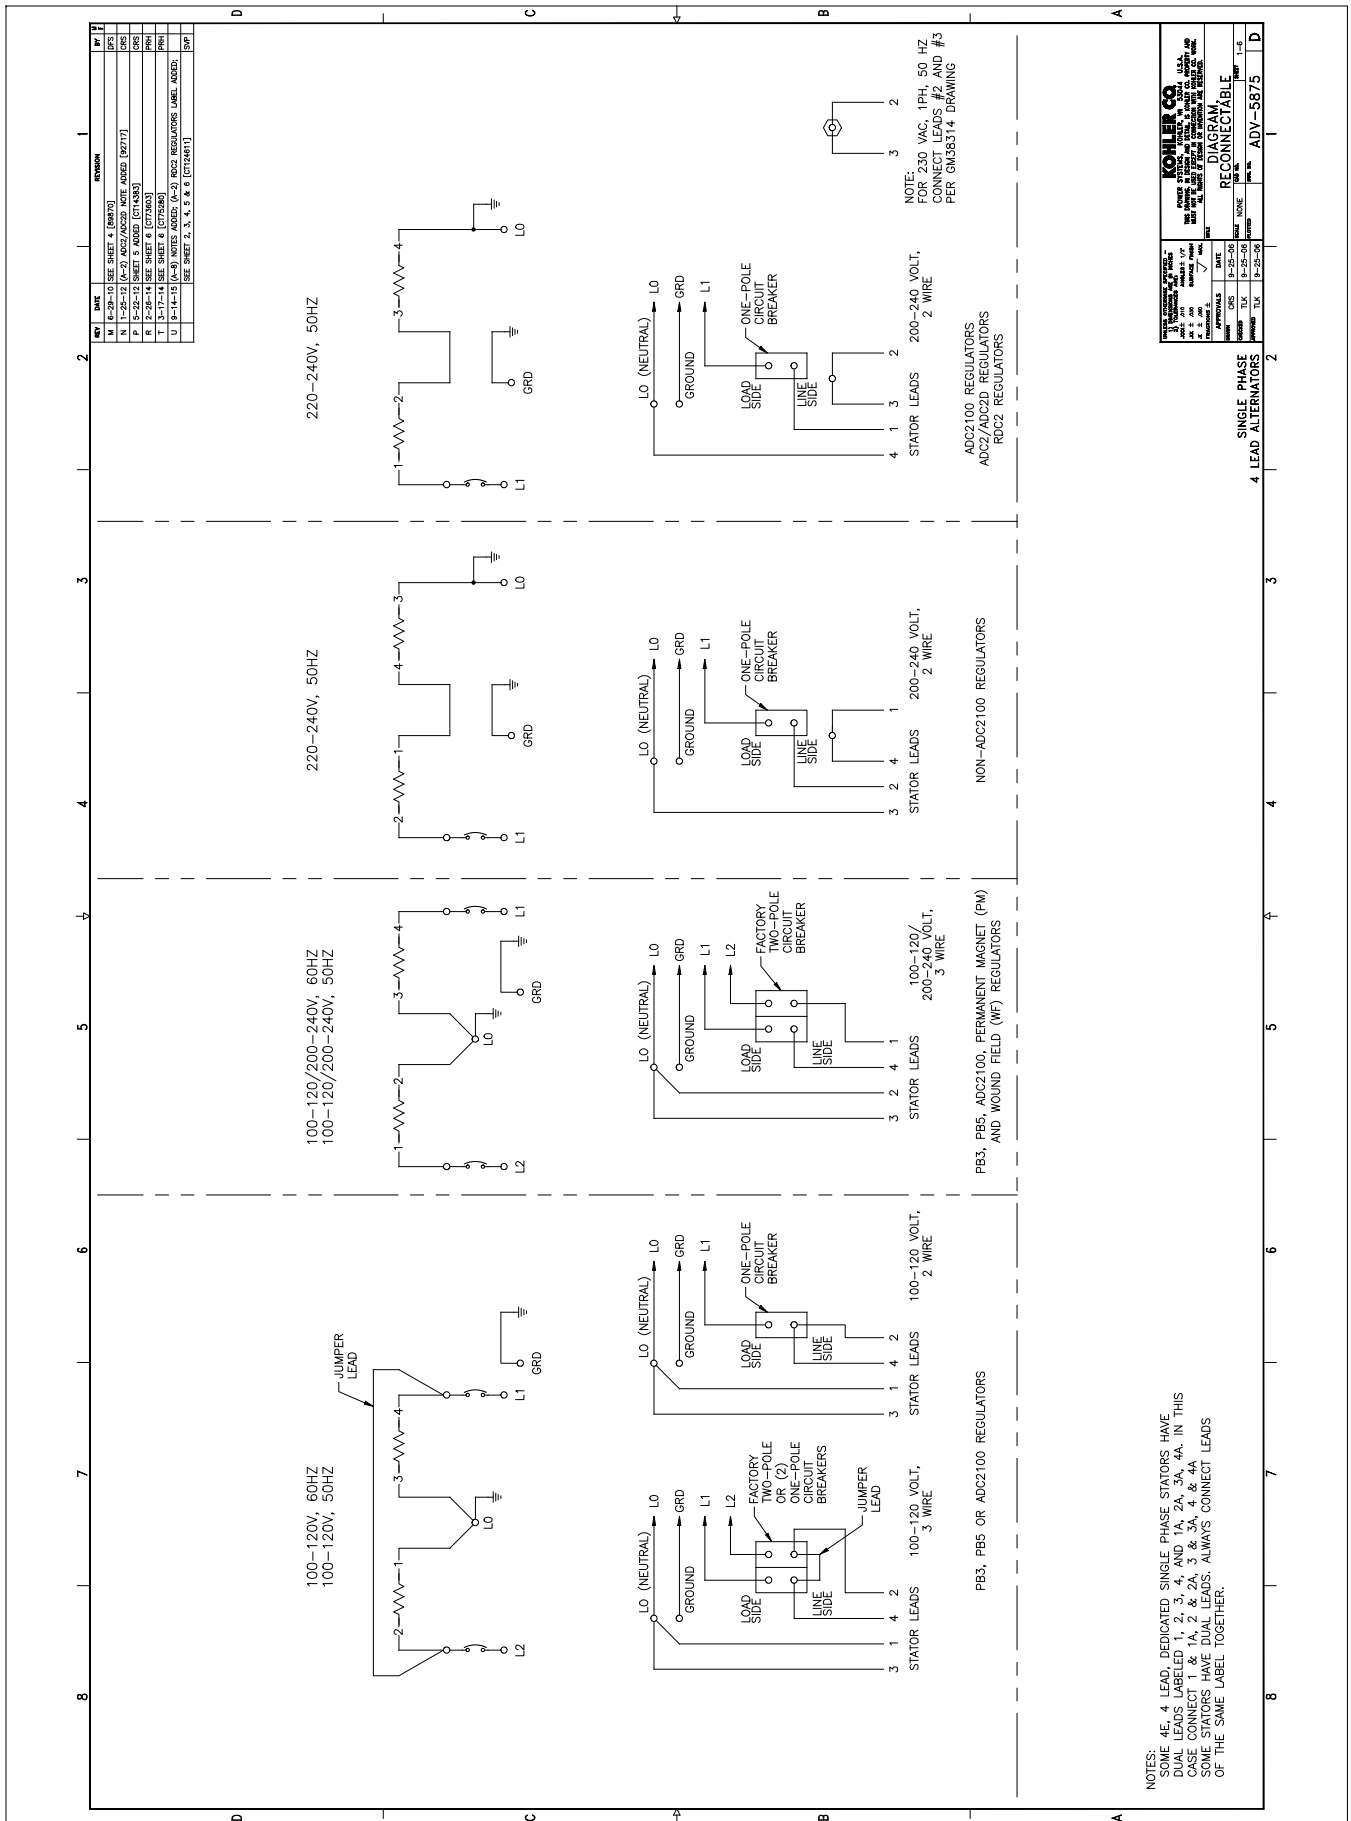
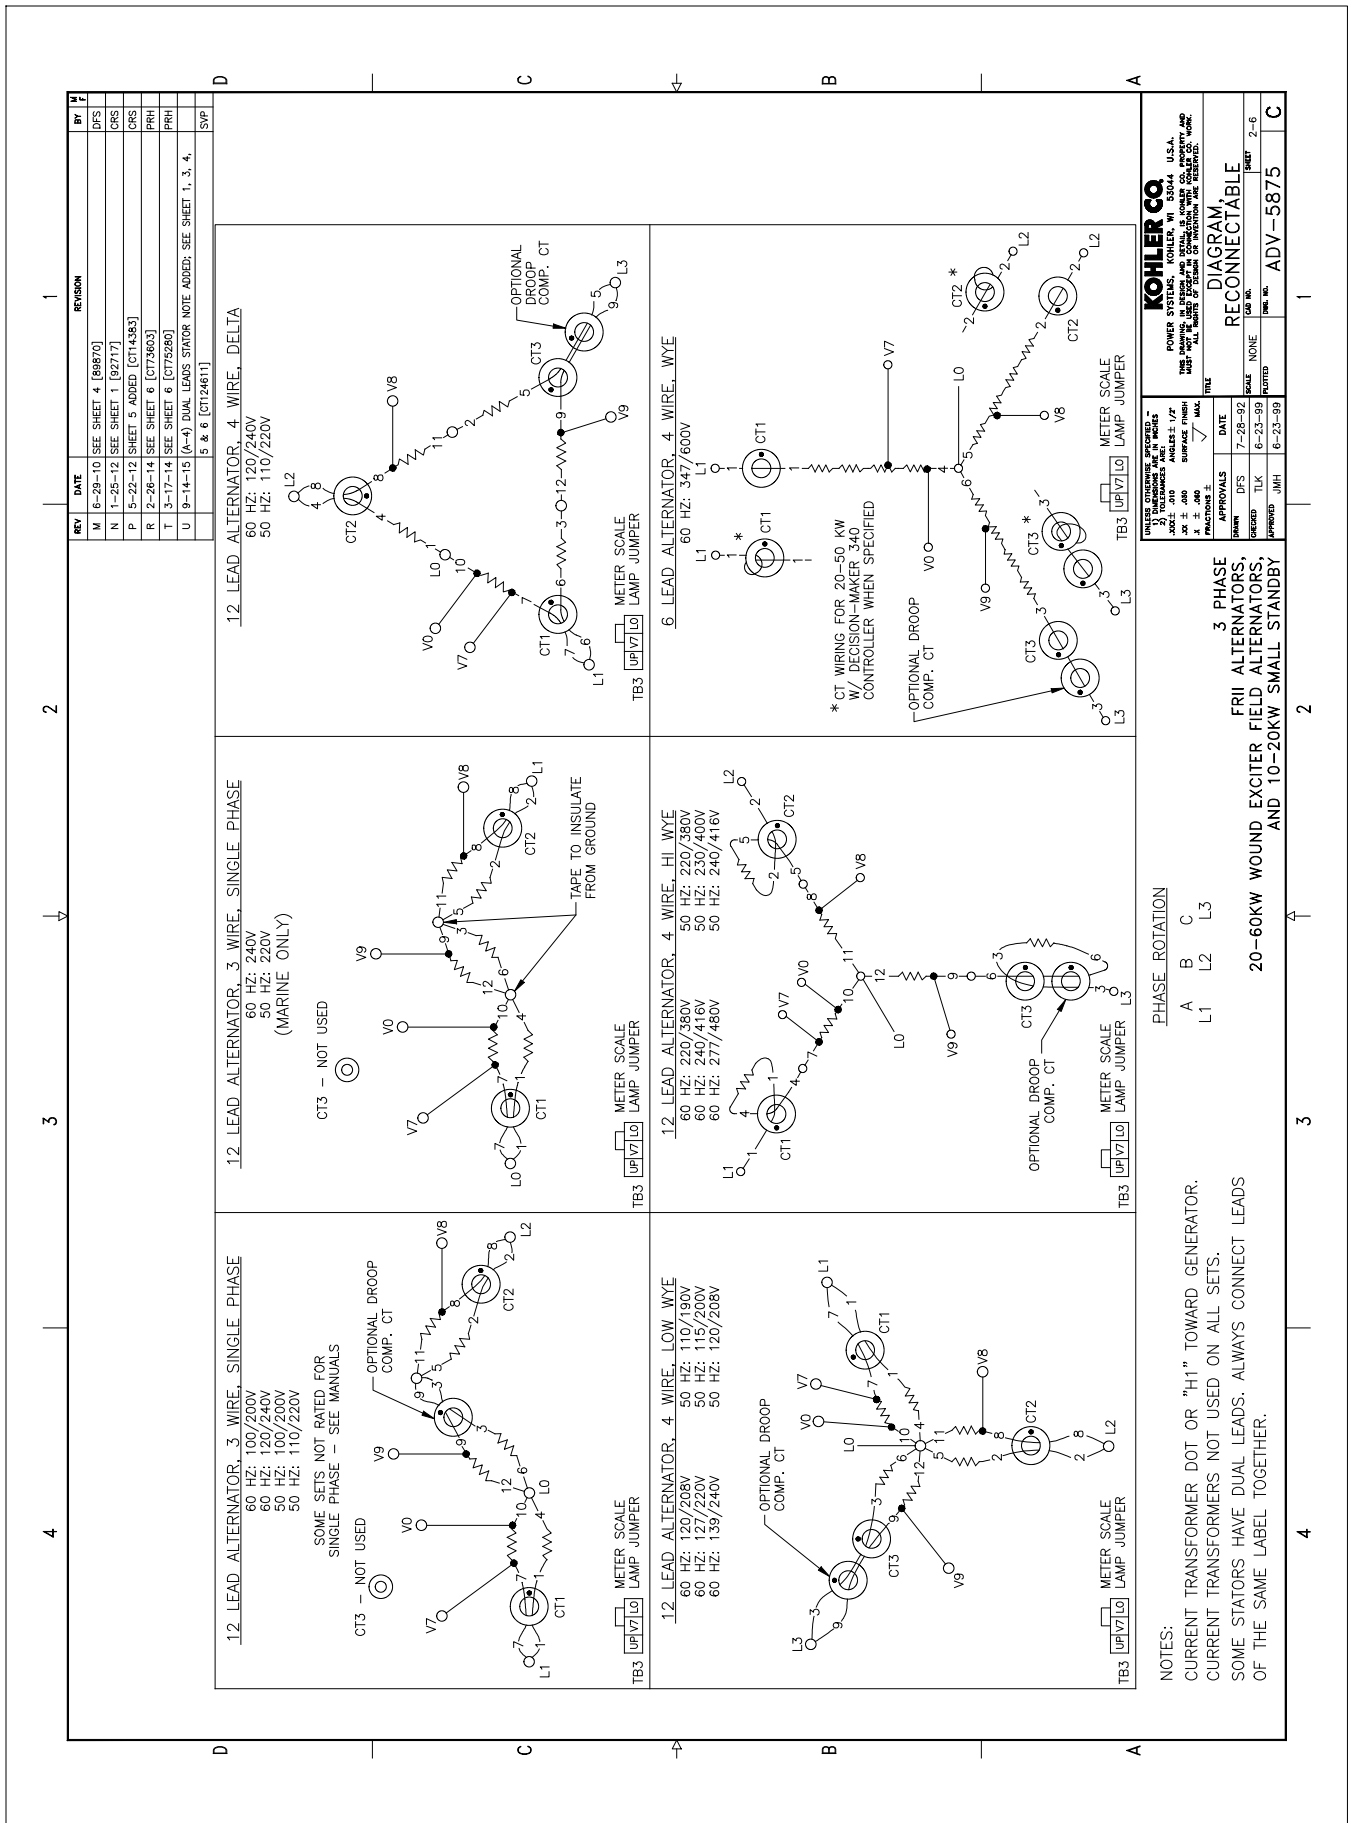
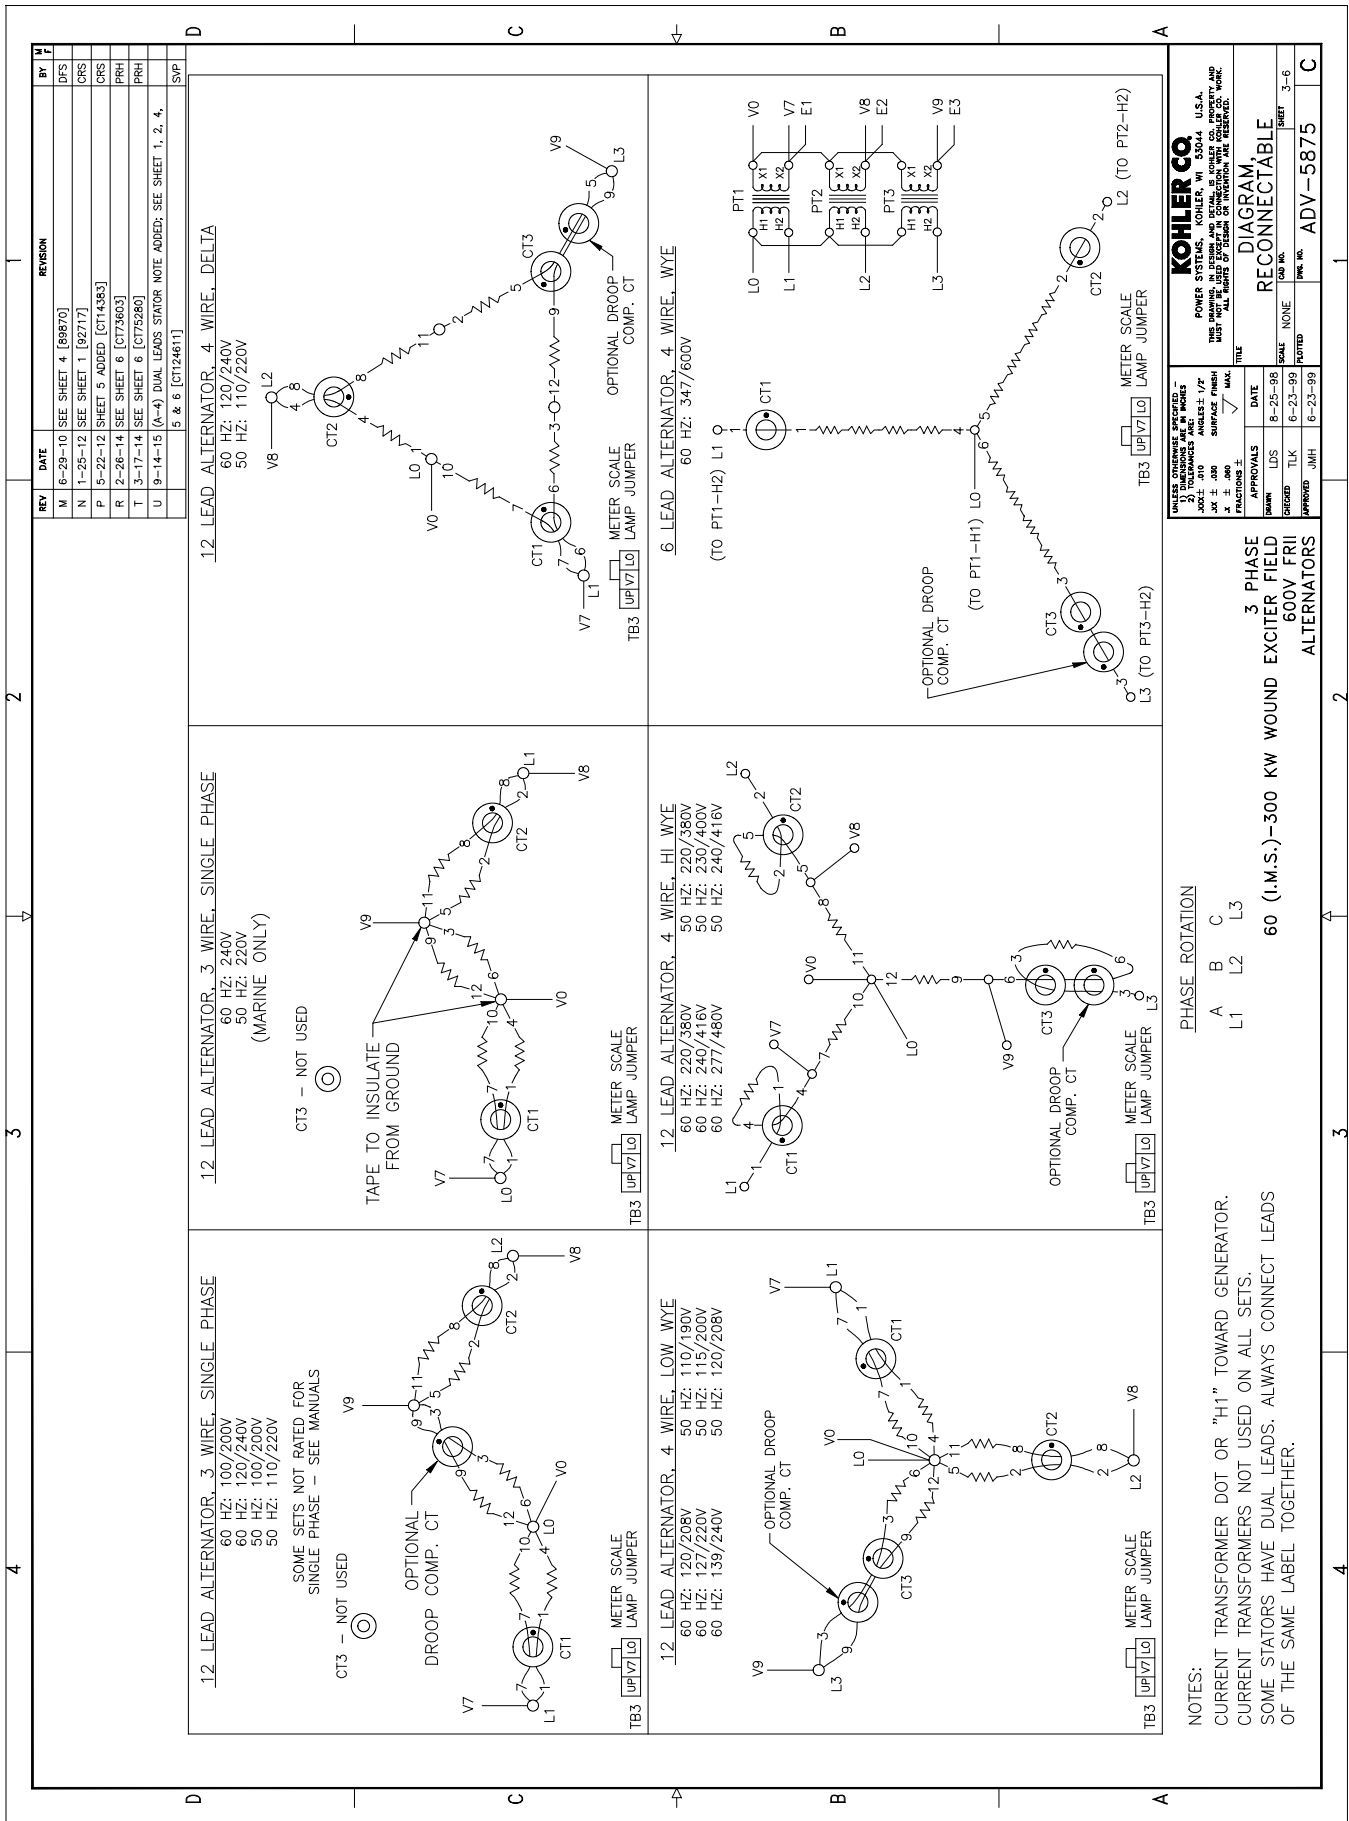
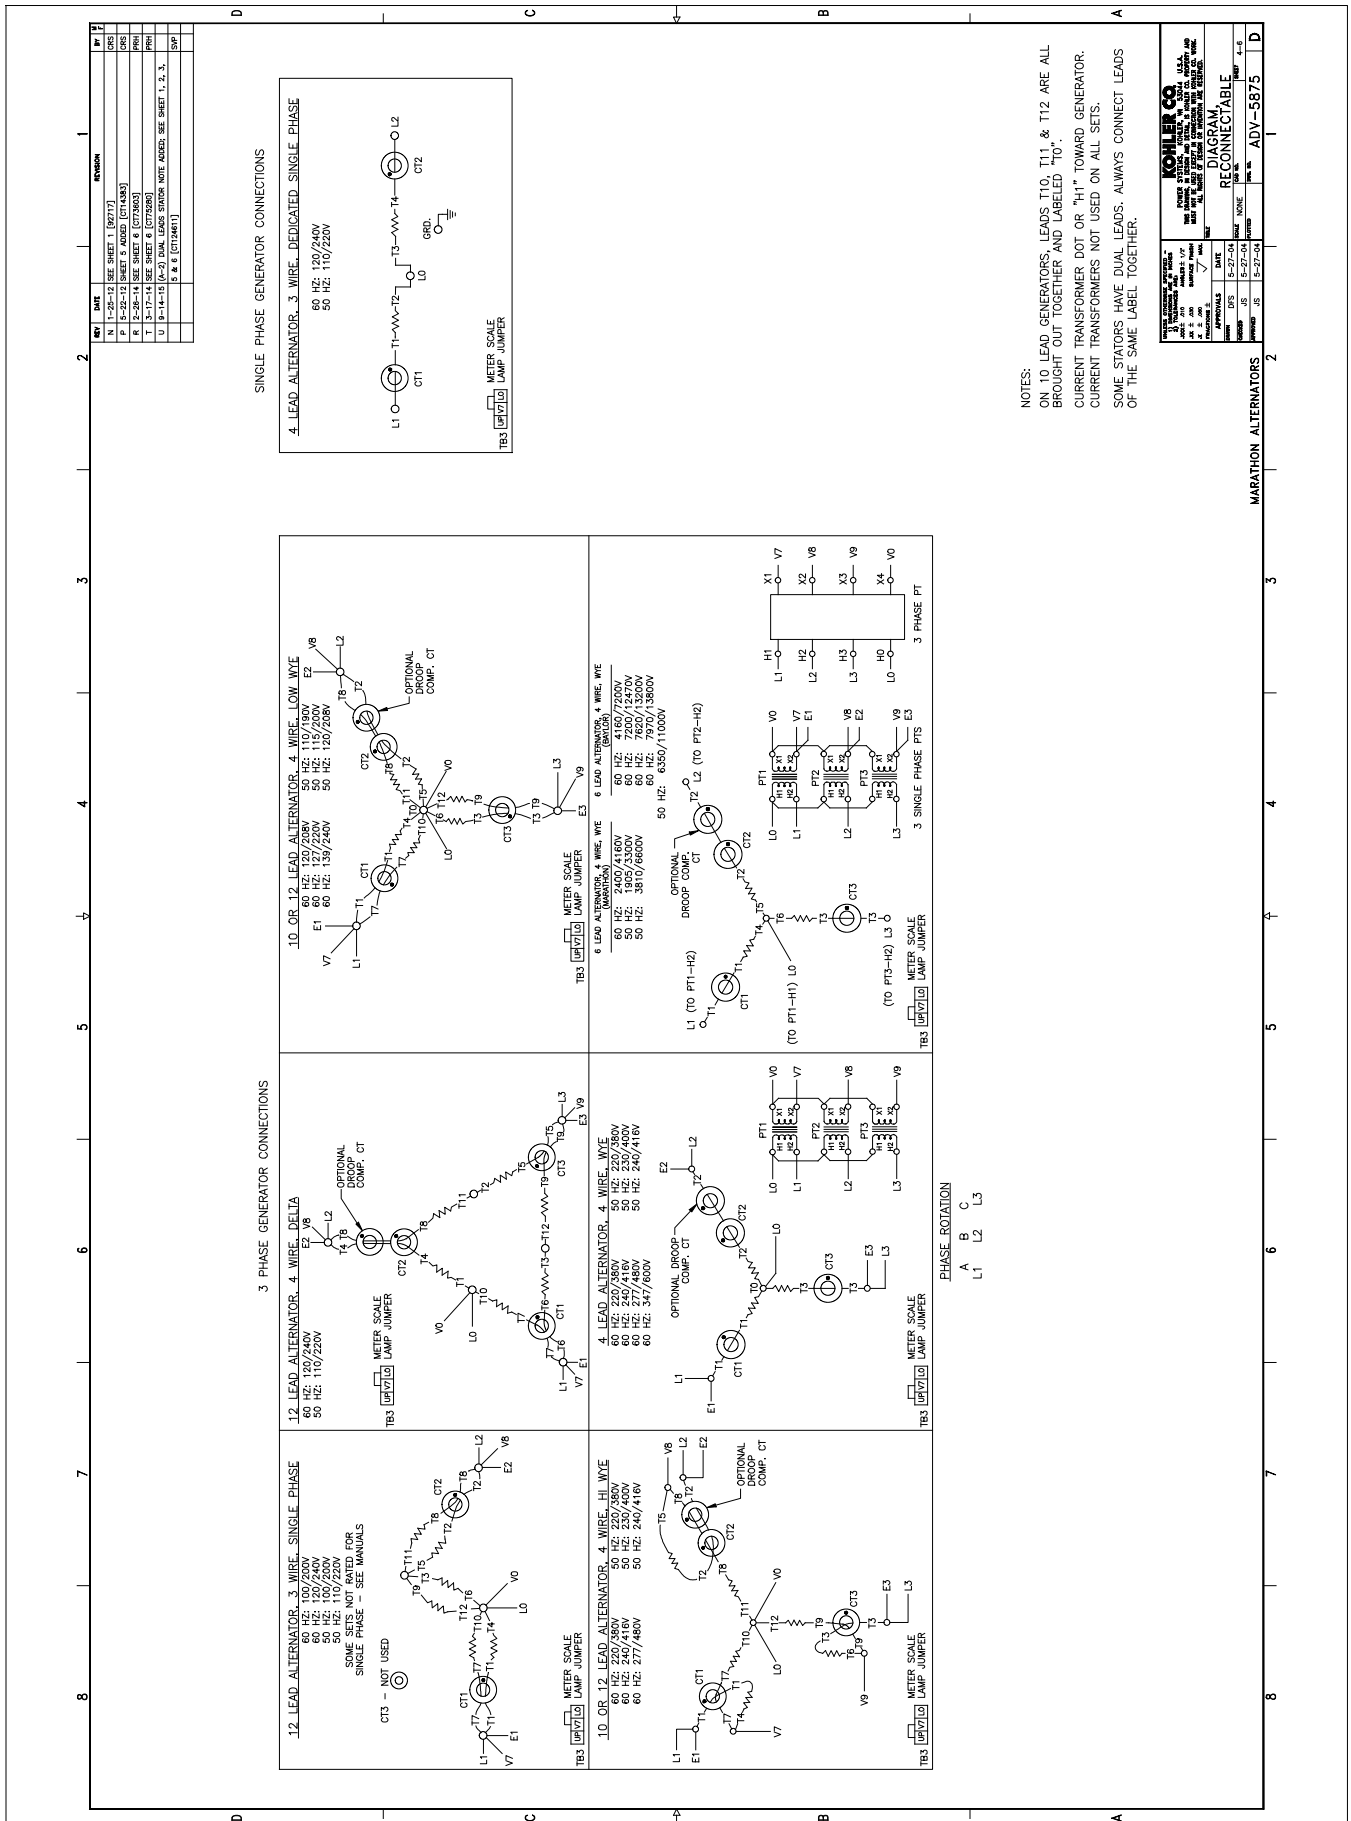

Figure 5-1 20–150 kW Permanent Magnet and Wound Field Single-Phase Alternators, ADV-5875U-1
Figure 5-2 20-400 kW Permanent Magnet and 20-60 kW Wound Field Alternators, ADV-5875U-2
Figure 5-3 60 (with Oversize Alternator)-400 kW Wound Field Alternators, ADV-5875U-3
Figure 5-4 350 kW and Larger Pilot-Excited, Permanent Magnet Alternator, ADV-5875U-4
3. Use Figure 5-1, Figure 5-2, Figure 5-3, or Figure 5-4 to determine the generator set voltage configuration. Note the original voltage and reconnect as needed. Route leads through current transformers (CTs) and connect them according to the diagram for the desired phase and voltage.